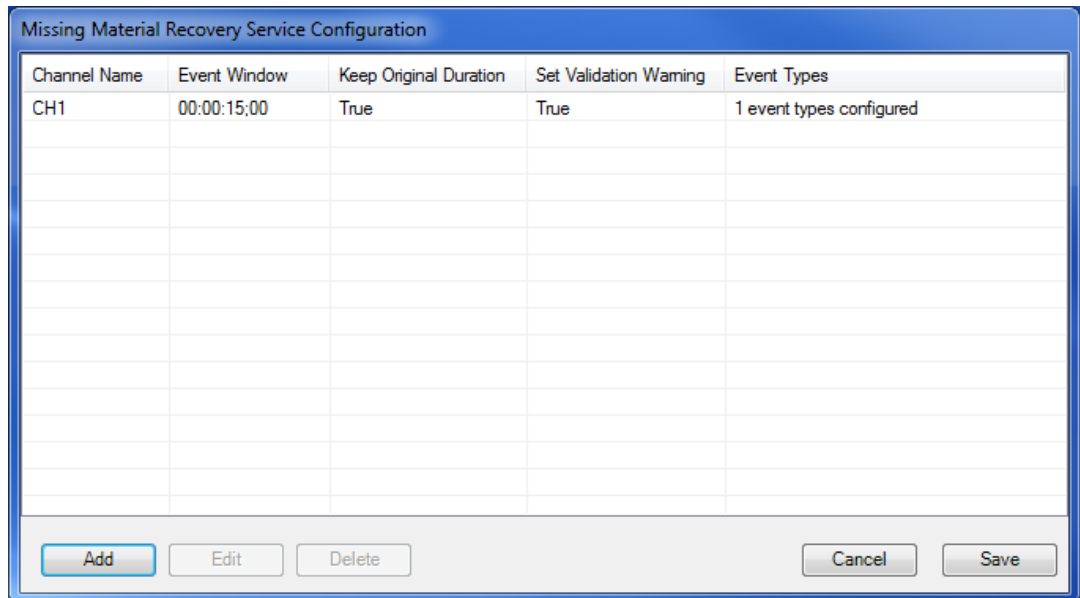

Figure 306 Missing Material Recovery Service Configuration Window
1. Click on **Add** in the Missing Material Recovery Service Configuration window (Figure 306).